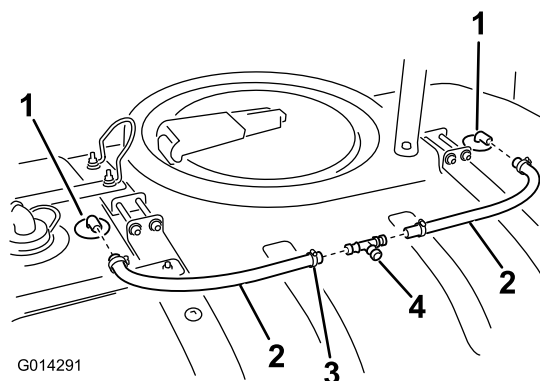

Figure 21
2. Install a hose clamp on the end each hose (Figure 21).
3. Install a hose over the barb of the rinse nozzle (Figure 21).
2. Install the tee fitting to the open ends of the rinse nozzle hoses installed previously as shown in (Figure 21).